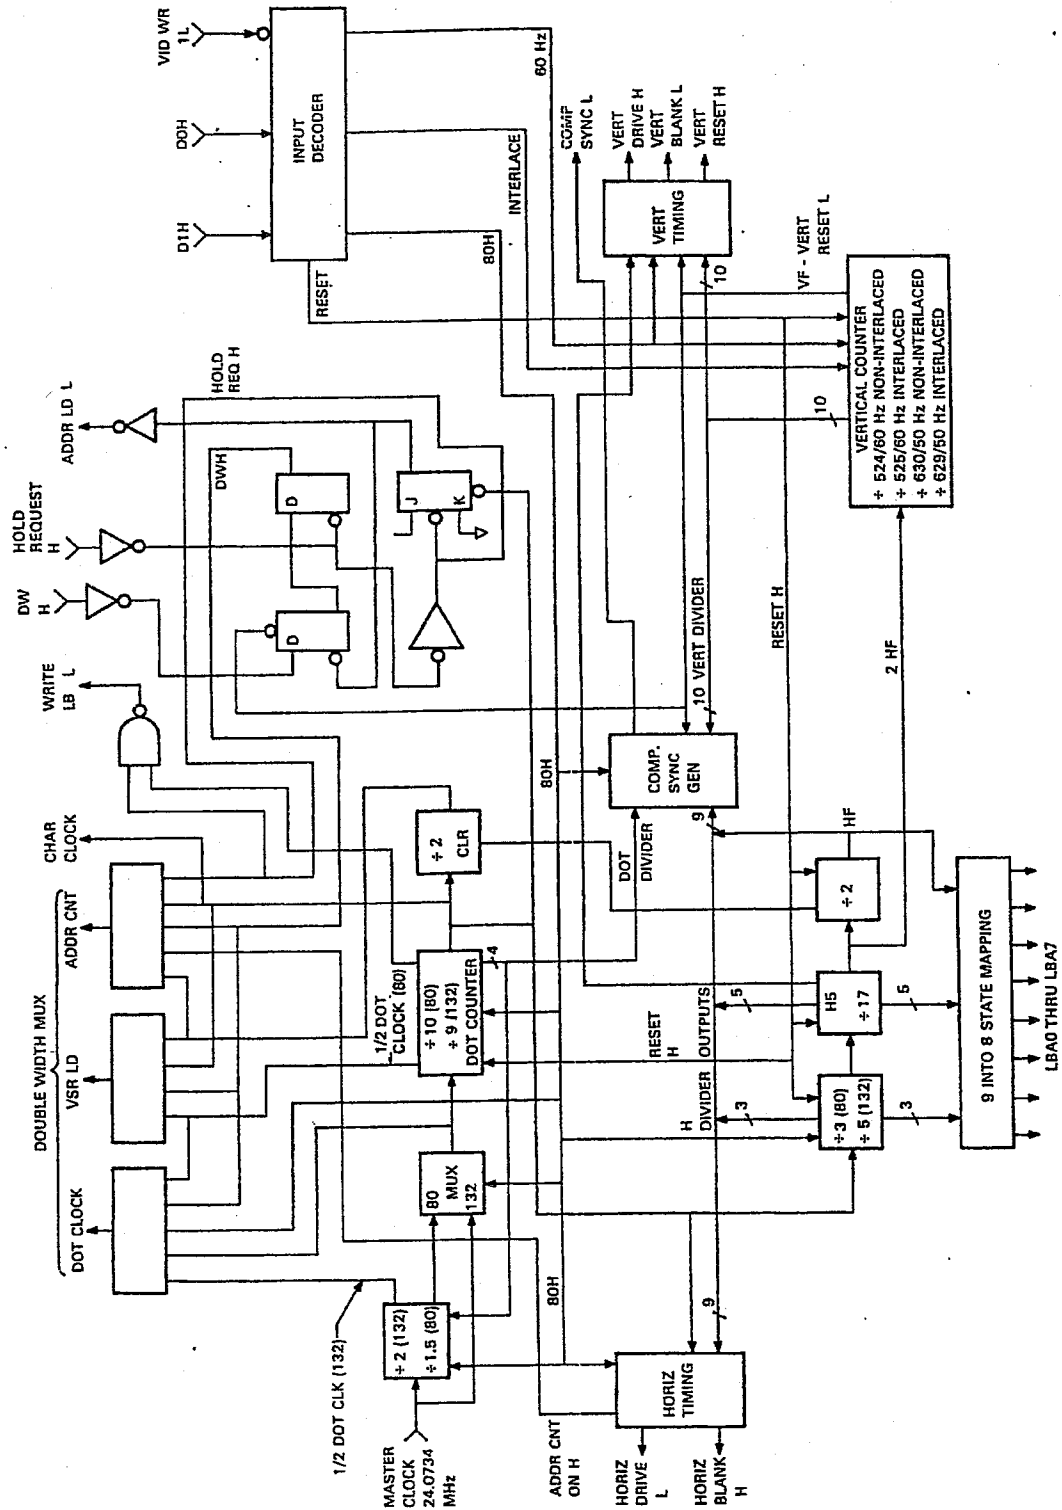
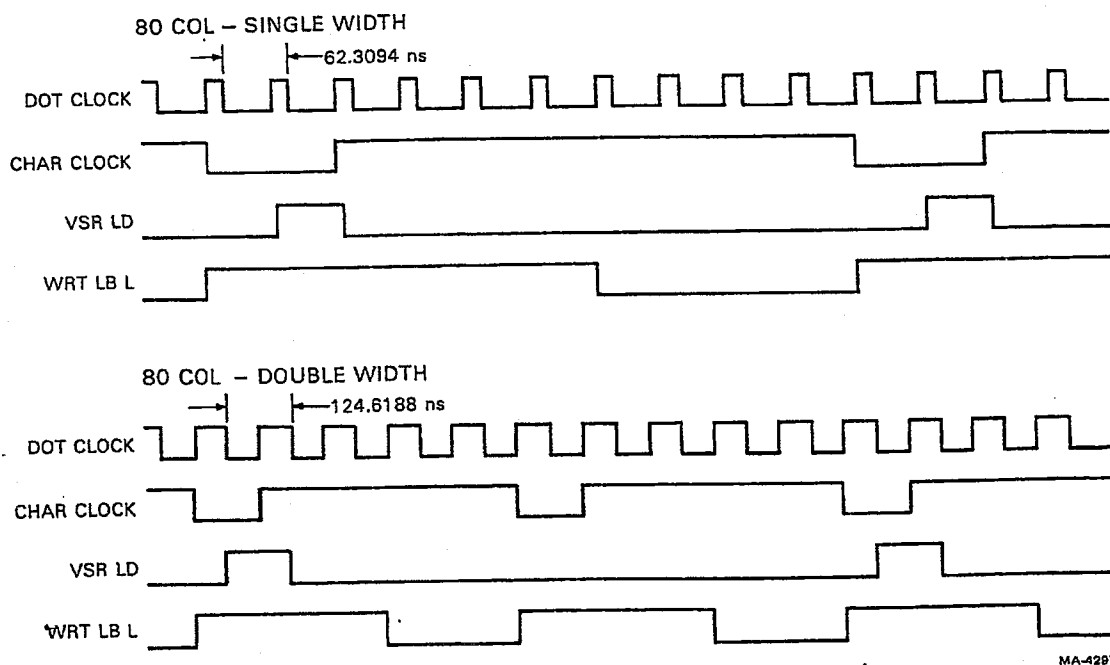

Figure 4-6-5 DC011 Block Diagram
Figure 4-6-6 Video Latch Timing – 80 Column
The DC011 is a custom designed bipolar integrated circuit that provides most of the timing signals required by the video processor. Internal counters divide the output of a 24.0734 MHz oscillator (located elsewhere on the terminal controller module) into the lower frequencies that define dot, character, scan, and frame timing. The counters are programmable through various input pins to control the number of characters per line, the frequency at which the screen is refreshed, and whether the display is interlaced or noninterlaced. These parameters can be controlled through SET-UP mode or by the host. In the following discussion, refer to the block diagram in Figure 4-6-5.
4.6.2.3 Dot Counter – The dot counter uses four flip-flops to divide the DOT CLK that was selected by the multiplexer by 10, in 80 column mode, or by 9, in 132 column mode. The output of the dot counter is the character rate clock, which is used to move character codes in the latches that are outside the DC011. Character clock is further divided by the horizontal counter. The timing of CHAR CLK is shown in Figures 4-6-6 and 4-6-7 for each of the two column modes. CHAR CLK is unaffected by double-width mode. The output of the next-to-last flip-flop is used for the write enable signal for the line buffer RAMs (WRITE LB L). WRITE LB L is also shown in Figures 4-6-6 and 4-6-7. This signal allows the data and address changes, caused by the rising edge of CHAR CLK, to become stable before writing is enabled and then disables writing before CHAR CLK rises again. WRITE LB L is gated directly with HOLD REQ H so that it is active only during DMAs. Intermediate signals from the four flip-flops are used by various other functions in the DC011 such as the double-width multiplexer and the composite sync generator.
4.6.2.4 Double-Width Multiplexer - The double-width multiplexer (MUX) produces the three signals whose timing must be changed when a line of characters is switched between single- and double-width modes. The frequency of DOT CLK must be divided in half on a double-width line so that the video shift register will shift half as often, making each dot (and therefore each character) twice as wide as it would be in single-width mode. In order for the video shift register to work properly with the half-rate DOT CLK in double-width mode, the load signal for the shift register (VSR LD H) must still come every 10 dots (80 column mode) or 9 dots (132 column mode). Therefore loads must occur at every other CHAR CLK. Similarly, incrementing the DMA address counters occurs on every other CHAR CLK to ensure that characters that are stored sequentially in the screen RAM are presented to the shift register at the correct time for each VSR LD H pulse. The different modes of DOT CLK and VSR LD H are shown in Figures 4-6-6 and 4-6-7.
The load input of the video shift register used in the VT100 is a synchronous input. This means that when the load input is high, the rising edge of DOT CLK causes a parallel load to be performed instead of a shift. To get one load and many shifts for each character, VSR LD H can only last for that one cycle of DOT CLK that is adjacent to CHAR CLK. Furthermore, transitions of VSR LD H must satisfy SET-UP and hold times with respect to the rising edge of DOT CLK. In single-width modes, VSR LD H is one dot time wide, generated from the outputs of the dot counter; and its SET-UP and hold times are guaranteed by internal propagation delays. This relationship is shown in Figures 4-6-6 and 4-6-7 by a slight shift in the transitions of VSR LD H with respect to DOT CLK. In double-width mode, VSR LD H is created by selecting every other CHAR CLK (Figure 4-6-5 shows a flip-flop that divides CHAR CLK by two for this purpose) and then delaying this signal by one single-width dot time.
4.6.2.5 Horizontal Counter – The block diagram in Figure 4-6-5 shows the horizontal divider broken into three stages. The first divider is programmable according to the number of columns selected and is driven by CHAR CLK from the dot counter. For 80 column mode the divisor is three; for 132 column mode the divisor is five. The total division from MASTER CLK to the output of this first divider is 45, independent of mode (for 80 columns: $1.5 \times 10 \times 3 = 45$, for 132 columns: $1 \times 9 \times 5 = 45$). Therefore, the operation of all of the remaining dividers in the DC011, which are driven from the first horizontal counter, are also independent of the column mode. The second stage of the horizontal divider has a divisor of 17, which is chosen to give the required number of displayable columns plus about 28 percent more to allow time for the monitor to execute a horizontal retrace. The last stage is a simple divide-by-2 that provides the horizontal frequency. Designing the last stage to be a divide-by-2 guarantees that the signal at its input will have a frequency twice that of the horizontal frequency as required by the vertical dividers to create interlaced operation. The total division from CHAR CLK provided by the horizontal divider is 102 in 80 column mode and 170 in 132 column mode. In either mode the frequency at the output of the horizontal counter is 15.734 kHz.
4.6.2.9 Vertical Counter – The 10-bit vertical counter, shown in Figure 4-6-5, determines the frequency at which the screen is refreshed by counting the number of horizontal scans to be included in each field. The vertical counter uses the 31.468 kHz output of the horizontal counter so that it can count the half-scans required for interlaced operation. Figure 4-6-5 lists the four available divisors that select the interlace mode and keep the refresh frequency as close to the local power line frequency as possible (to minimize interference with the screen from nearby equipment). The vertical frequencies produced by these divisors are approximately 1/20 Hz above or below the nominal power line frequency.
4.6.2.12 Hold Request, Address Load, and Double-Width – The logic associated with HOLD REQ H, ADDR LD L, and DW H is shown in Figure 4-6-5. The falling edge of HOLD REQ H sets ADDR LD L to the low state; ADDR LD L is subsequently cleared by the falling edge of CHAR CLK, thus creating a short low pulse on ADDR LD L at the end of each DMA. ADDR LD L stores, in their respective registers, all line attributes and the memory address of the next line to be accessed by a DMA. The rising edge of HOLD REQ H causes the value of DW H that was stored in the holding flip-flop by the previous ADDR LD L to be transferred to a second flip-flop whose output controls the double-width MUX. This means that the value of DW H stored at the end of one DMA by ADDR LD L does not actually become effective until the beginning of the next DMA. The holding flip-flop for DW H is cleared by VERT RESET H at the start of every field. HOLD REQ H is also used to enable ADDR CNT and WRITE LB L only during DMAs. Interactions of HOLD REQ H with other signals during a DMA are further defined in Figure 4-6-19.